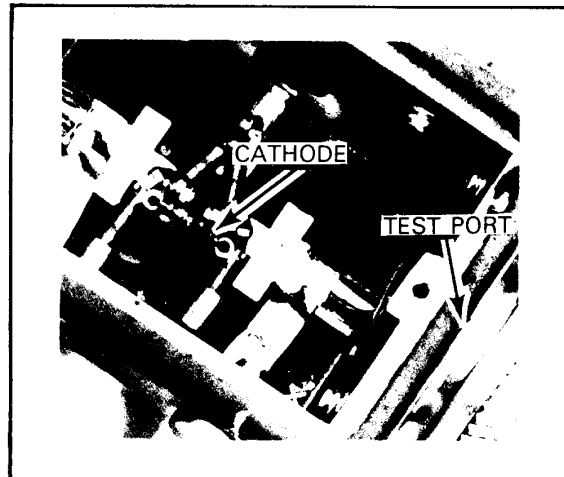

Figure 7-21. 560-6 SWR Autotester With Detector Diode Shown
- b. Unplug and remove diode (Figure 7-21) from SWR Autotester circuit board.